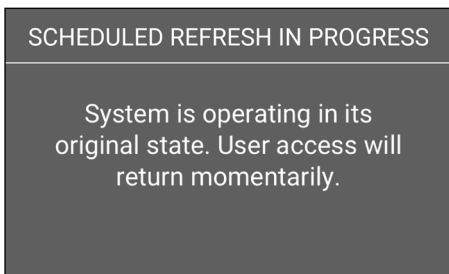

Figure 9. Scheduled refresh screen
2. The refresh screen (Fig. 9) will appear for several seconds and then the device will re-start into the state it was in prior to the refresh. The status lights will turn red during the duration of the reboot.